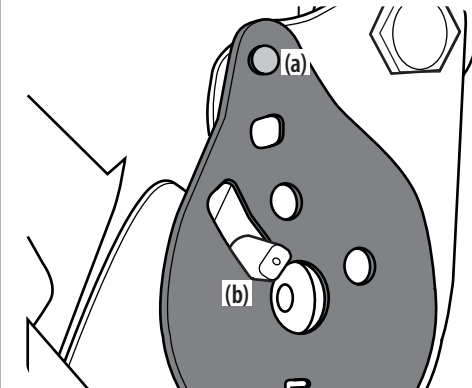

Figure 2-11
- Tilt the seat forward into the full forward position. Replace the recliner plate with the clinch-stud (a) and the recliner pin (b) passing through the recliner plate in the locations shown in Figure 2-11.